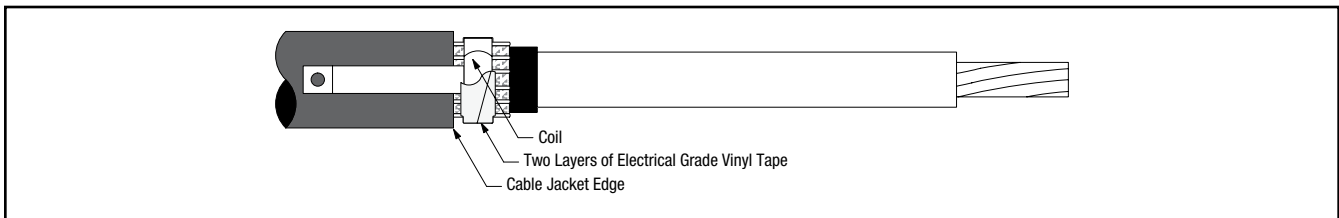

Figure 11
9.3 Hold coil in place with thumb. Pull coil around the cable allowing it to unwrap and rewrap around the shielding and itself (*Figure 11*).
9.4 Wrap two highly stretched layers of electrical grade vinyl tape around the coil (*Figure 11*).